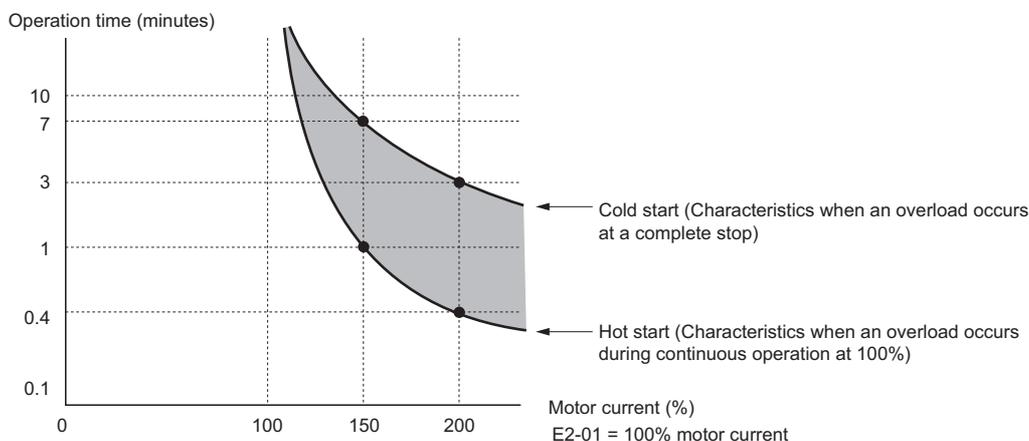

Figure 65 Protection Operation Time for General Purpose Motors at the Rated Output Frequency
- **Figure 65** shows an example of the electrothermal protection operation time using a general-purpose motor operating at 50 Hz with L1-02 set to one minute.